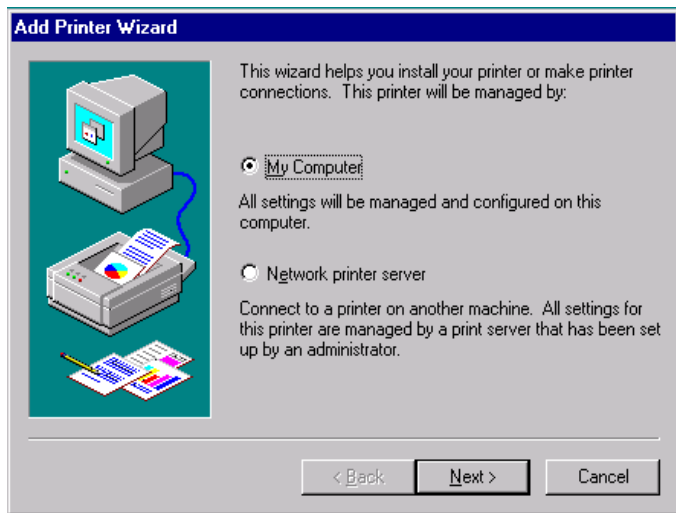

Figure 5-1
8. The Add Printer Wizard screen will appear as shown in Figure 5-1. Select **My Computer** and click **Next**.